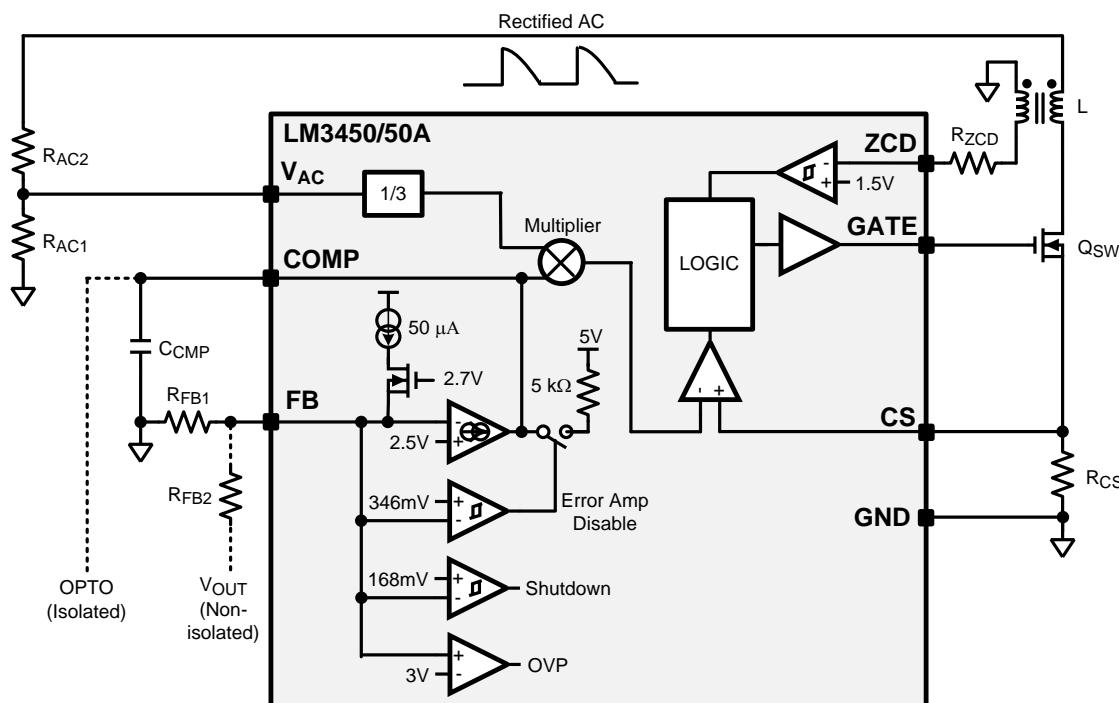
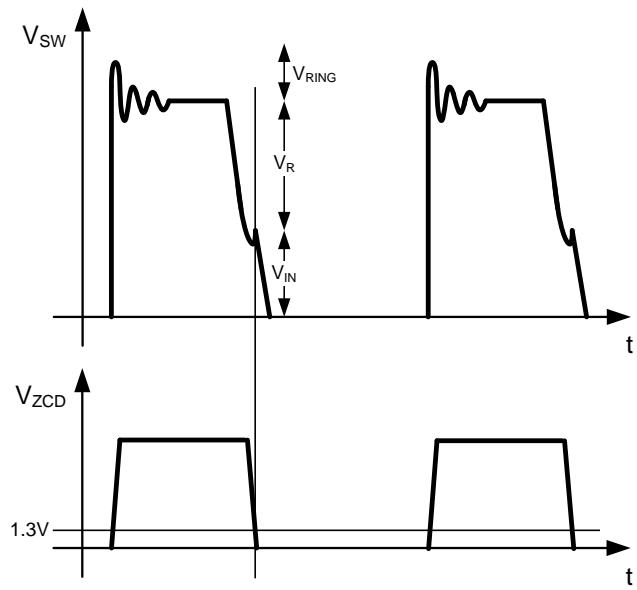

Figure 21. PFC Control Circuit
Figure 22. ZCD Waveforms for Flyback Design
The LM3450/50A uses CRM control to regulate the output voltage and provide power factor correction. In a non-isolated boost topology, an external voltage divider (R_{FB1} , R_{FB2}) is used to sense the output voltage, as shown in Figure 21. The divider is connected to the inverting input (FB) of the internal error amplifier. The LM3450/50A regulates the feedback voltage (V_{FB}) to 2.5V in a closed loop fashion.
For an isolated flyback topology, where the error amplifier is on the secondary, the LM3450/50A internal error amplifier can be bypassed using a single 5.11k Ω resistor (R_{FB1}) from FB to GND. This engages an internal 5k Ω pull-up resistor at COMP. COMP can then be connected directly to the optical isolation as shown in Figure 21.
ZCD is implemented with a $100\text{k}\Omega$ resistor from the ZCD pin to a coupled winding on the transformer or inductor as shown in Figure 21. This winding is also used to bootstrap V_{CC} after start-up. When Q_{SW} turns off, the voltage at the ZCD pin (V_{ZCD}) increases as energy is transferred through the auxiliary winding. The circuit arms when V_{ZCD} exceeds 1.5V. Then, when the energy is fully transferred, V_{ZCD} decreases towards zero. When V_{ZCD} falls below 1.3V, the transformer is assumed to be demagnetized, the circuit disarms, and Q_{SW} is turned back on as shown in Figure 22. The ZCD pin voltage will remain low until Q_{SW} is turned off via peak detection and the cycle repeats.
The LM3450/50A internal error amplifier is used for non-isolated designs (boost) where the output voltage can be directly sensed, via a resistor divider, at the FB pin. The FB pin is the inverting input of the trans-conductance amplifier which is regulated to 2.5V. The COMP pin is the output of the amplifier and external compensation is placed from COMP to GND in the form of a single capacitor (C_{COMP}) as shown in Figure 21, a series resistor and capacitor, or both. The output of the amplifier sources or sinks current as necessary to force the inputs of the amplifier to be equal. The compensation method depends upon the transient performance desired and requires a loop gain analysis. This analysis can be somewhat complex and cumbersome. A detailed analysis can be found in Application Notes AN-2098 (literature number SNVA463) and/or AN-2150 (literature number SNVA485).